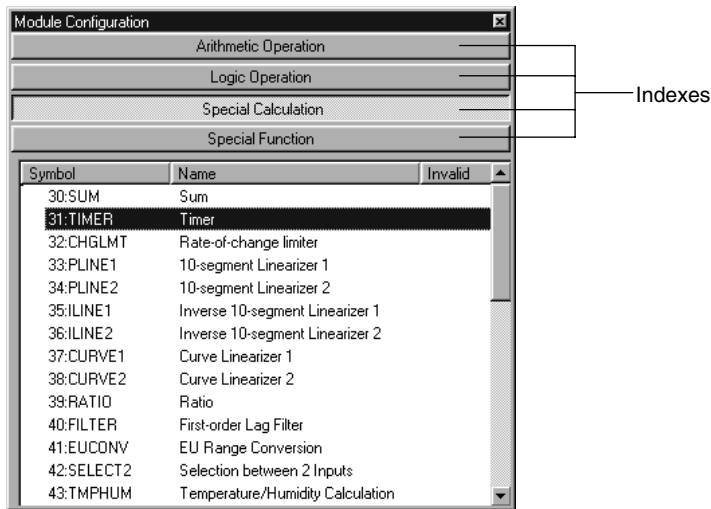

Figure 12.5.4 [Module Configuration] Dialog Box
- (2) In the [Input Block] dialog box, double-click a blank box. The [Module Configuration] dialog box (Figure 12.5.4) appears.